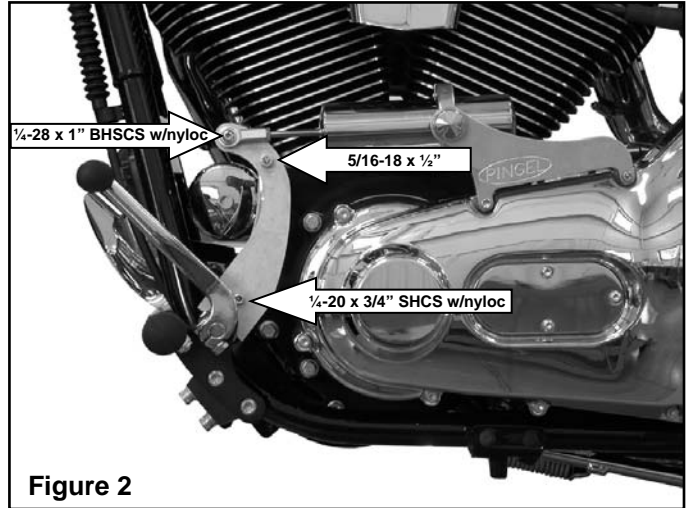

Figure 2
Install the electric shift cylinder onto the shift cylinder to engine support bracket using the Pingel clamp and (2) 1/4-20 x 3/4" socket head cap screws, adjusting the cylinder so the clamp is approximately 2/3 front to back (see Figure 2). Just snug these bolts for now, as adjustment will be needed.